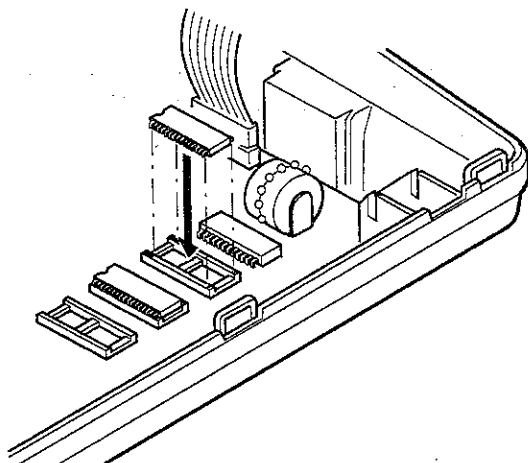

Fig. 1
- 2) Insert the expansion RAM chip onto the socket RAM2 on the main PWB. (Fig.1, 2)
The number of pins are different between the ER-01RA (28 pins) and the ER-02RA (32 pins). Observe the correct position for insertion of the chip. (Fig.1, 2)